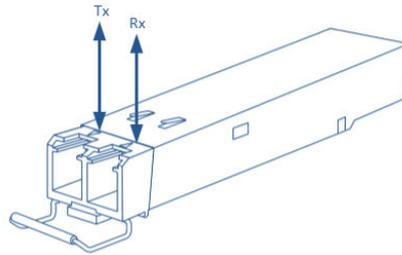

Figure 6 : SFP+ Module with TX output and RX input marked
- b. On Fiber channel 0 both the TX and RX fiber cables must be connected. On channels 1 through 3 only one fiber cable should be connected. This cable is connected between TX output (Marked with TX or Arrow outwards the SFP+) on the Camera Link Extender Device unit and RX input (Marked with RX or Arrow inwards the SFP+) on the Camera Link Extender Host unit, as shown in Figure 6.